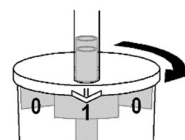

Fig. 3
4. To absorb the first polyp, rotate jar until the lid's arrow points at the number "1" (Fig. 3).